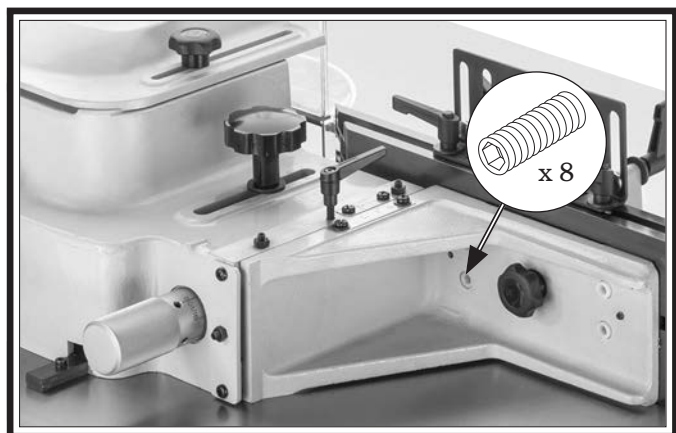

Figure 91. Location of fence face set screws.
5. With straightedge against fence faces, adjust fence set screws in small increments until any gaps are bridged (see **Figure 91**).